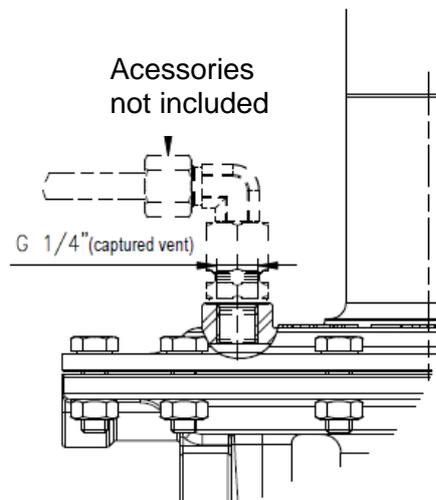

Figure 3 - Leakage line connection
- If the valve is fitted with the optional ¼” diaphragm cover leakage connection Figure 3, it should be forwarded to a “safe place or line”. The definition of a “safe place or line” is related to the installation requirements and is responsibility of the installer to determine. **If the valve is EX certified, the leakage line is required for its normal safe operation, don’t forget to install it.**